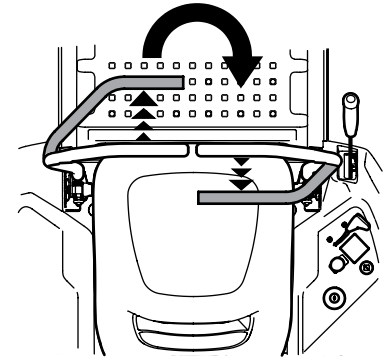

Figure 3-11
2. To turn clockwise, move the left drive control lever forward while simultaneously moving the right drive control lever rearward. See Figure 3-11.